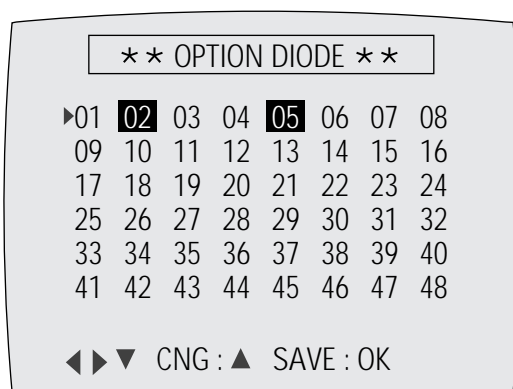

Fig. 2-4 (VCR)
- 2) Press the "MENU" button on the remote control about 5 seconds then option setting display is appeared. (See Fig. 2-4 and 2-5)
(If "PLAY" button is pressed, the selected number is changes reversed color. ; See Fig. 2-4 and 2-5)